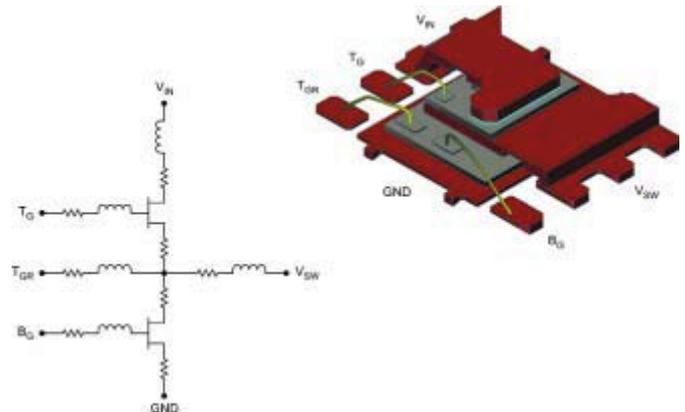

Figure 4: NexFET Power Block parasitic model package
3) The stacked configuration virtually eliminates the parasitic inductance and resistance between high- and low-side MOSFETs; and using thick copper clips substantially reduce parasitics associated with the  $V_{IN}$  and  $V_{SW}$  connections when compared to wire-bonded solutions. For a more detailed view of the package parasitics, refer to Figure 4. In general, reducing or even eliminating the buck converter's internal parasitic allows the system to switch faster and work at higher frequencies because of the reduced switching losses.